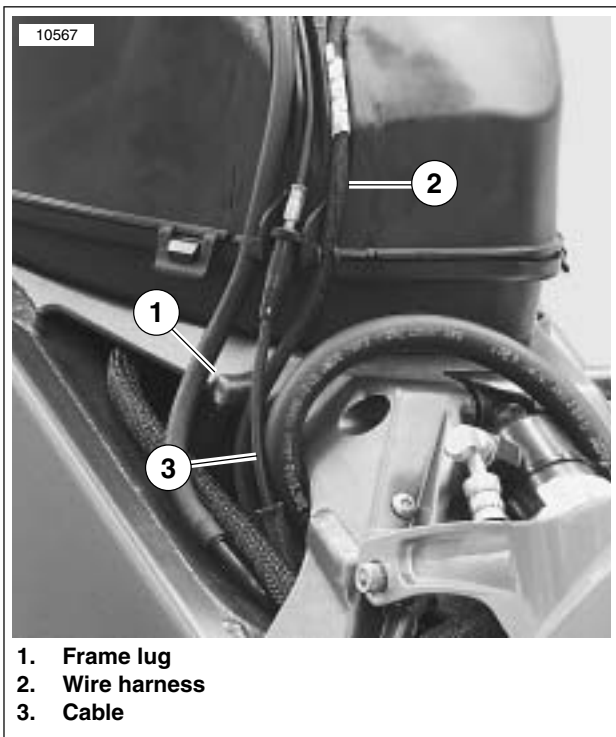

Figure 1-84. Correct Cable Routing Behind Frame Lug
4. See Figure 1-84. Verify that the interactive exhaust cable (2) is routed behind the frame lug (1) before installing air intake cover.